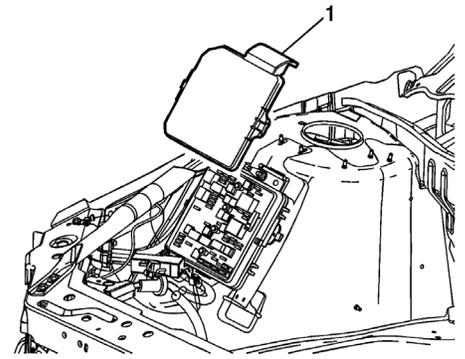

**Fig. 1** Battery ground post clamp removal
1. Remove battery ground post clamp (1) from battery and position battery ground cable (2) aside, **Fig. 1**.
10. Install battery ground post clamp (1) to battery ground post and **torque** to 89 inch lbs., **Fig. 1**.